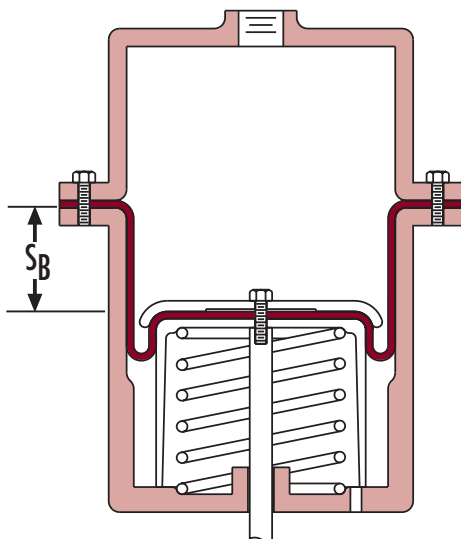

Fig. 6: Down-Stroke Position
- Half Stroke – Many designs involve stroking the piston and diaphragm in only one direction from the neutral plane. “Half-stroke” is the term used to designate the stroke capability of the diaphragm under this condition. The half-stroke is designated as SB if it strokes below neutral plane. (Fig. 6) If a bonnet is used, the piston and diaphragm are allowed to stroke above the neutral plane, also. This portion of the diaphragm stroke capability is designated as SA stroke above neutral plane. (Fig. 7)